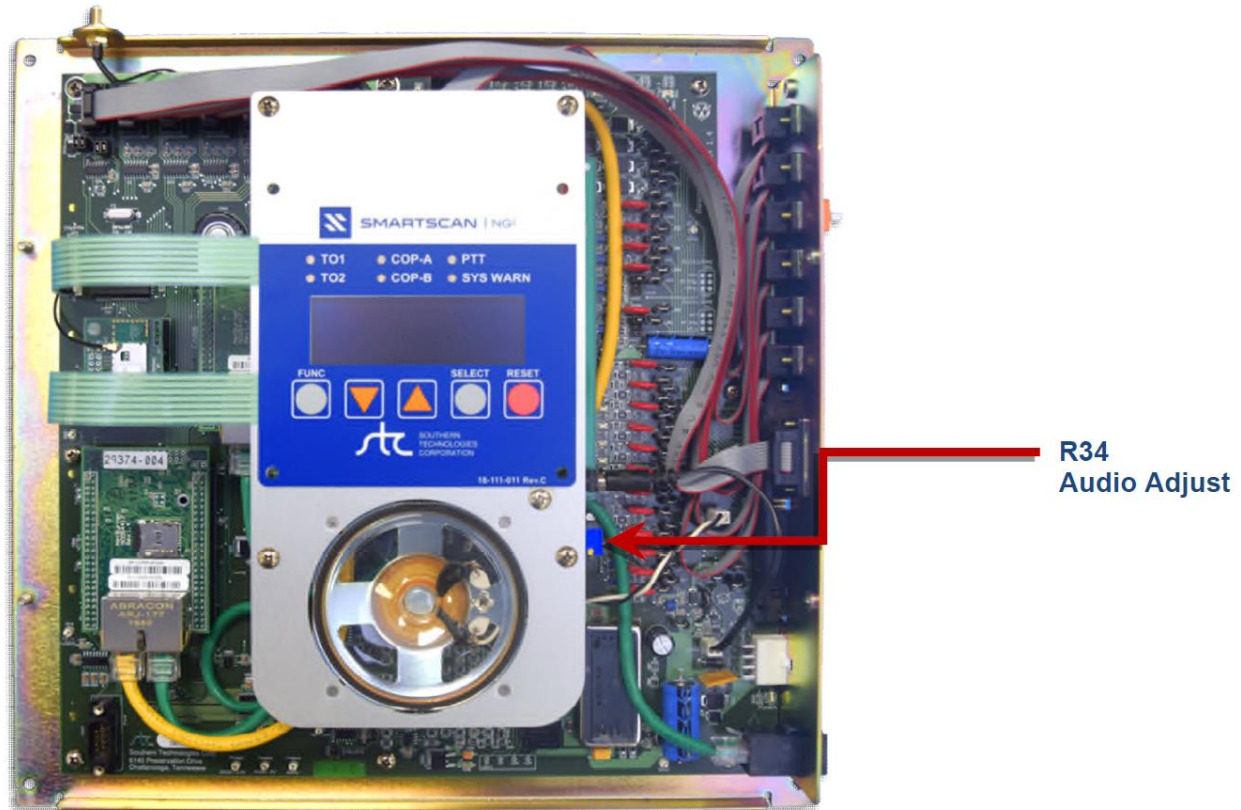

Figure 3 - Inside the Controller Module
10. Adjust the transmit audio level as necessary with R34 of Track-1 and Track-2, as shown in Figure 3.
| 7 | TRANSMIT AUDIO OUTPUT | CONNECT TO TRANSMIT AUDIO INPUT OF RADIO (transmit audio level controlled by R34 of each NG ² , Figure 3) |